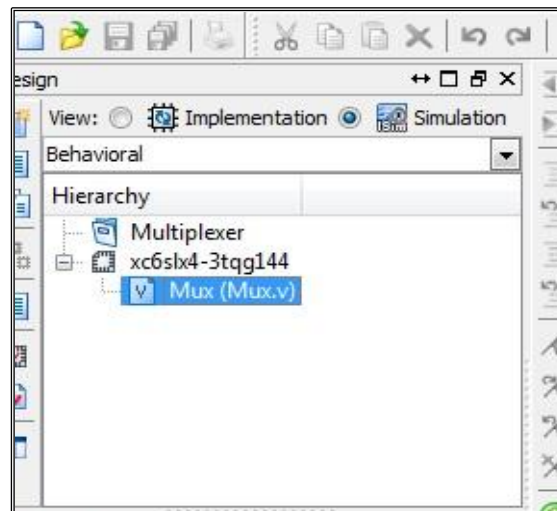

Fig 2.11: Simulation
11. Save the module. After writing the code next step is to check the syntax and functionality of the design. For this we have to select **Simulation** button in the **Hierarchy window** on the left pane (Fig 2.11).